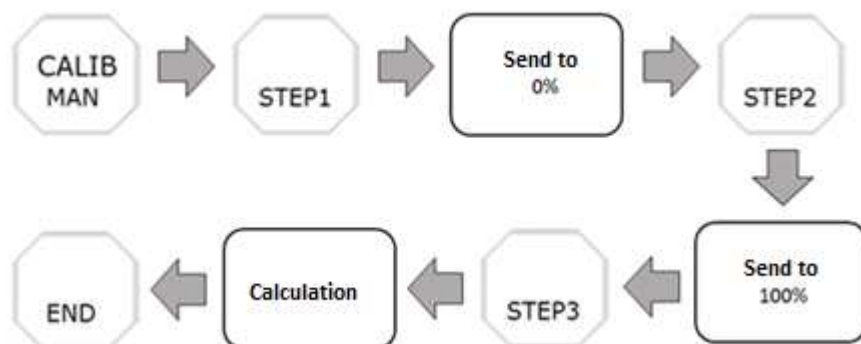

Figure 3.10 – Diagram for position manual calibration.
- **Manual Calibration:** performs the manual adjustment procedure of 0% and 100% position sensor references. Figure 3.10 shows procedure steps.